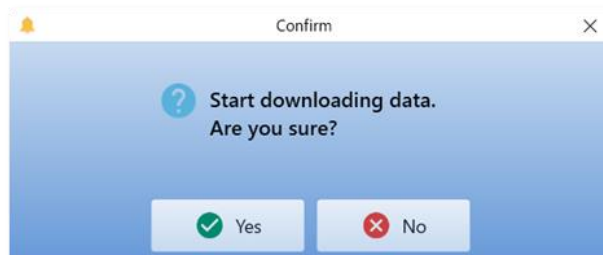

Figure 6.24 Confirmation dialog box before transfer
- (3) Displays confirmation message before transfer. (Figure 6.24)
(5) Displays confirmation dialog as transfer completes. (Figure 6.24)